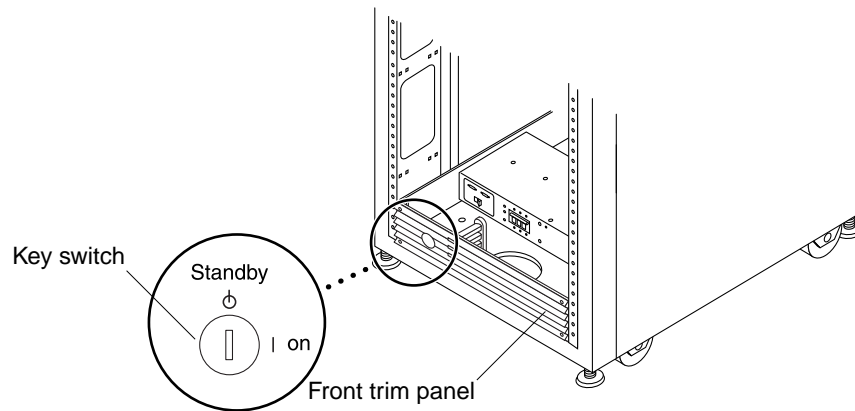

FIGURE B-1 Location of Key Switch on Bottom Front Panel (Standby Position)
1. **Verify that the key switches located at the bottom front of the base system and any expansion cabinet are in the Standby position** (FIGURE B-1).